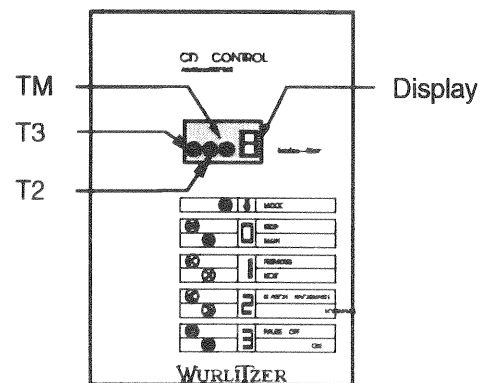

Fig. 35
4. Press and hold button TM (Fig. 35, Pos. 2).
2. In this mode on the display of the CD control (Fig. 35) a "0" appears.
3. By pressing the button TM (Fig. 35) different modes explained below are selectable. The buttons T2 and T3 (Fig. 35, Pos. 3 und 4) have different functions in each mode.